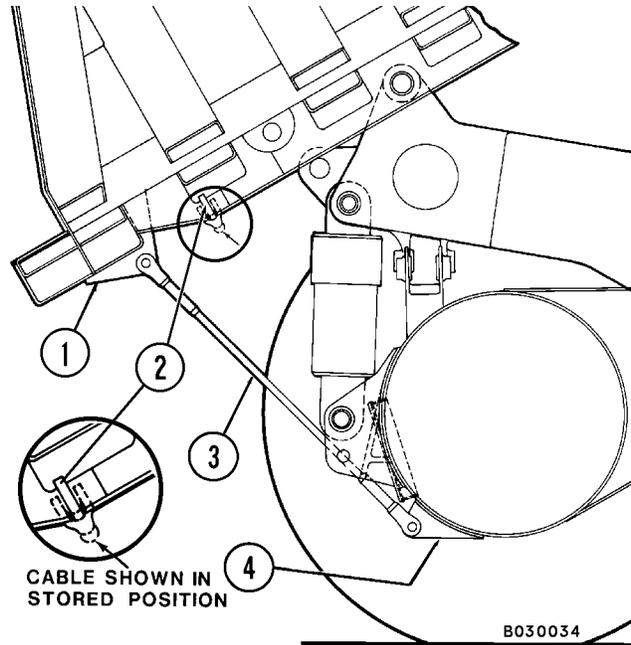

FIGURE 3-1. BODY UP SAFETY CABLE
2. Remove cable (3, Figure 3-1) from its stored position on the body, and install between rear body ear (1) and axle housing ear (4). Secure the cable clevis pins with cotter pins.